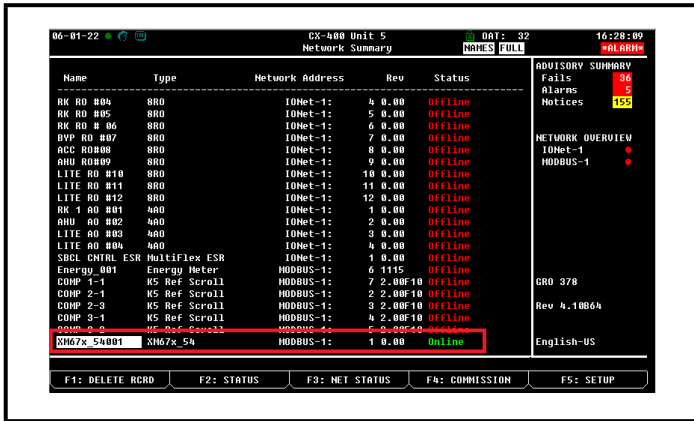

Figure 21-7 - Network Summary Screen
- When finished, press **Return** to return to the **Network Setup** menu, then press **1** - **Network Summary** (Figure 21-7). Locate the devices you set up, and look at each device's status in the Status field. You will see one of the following messages: